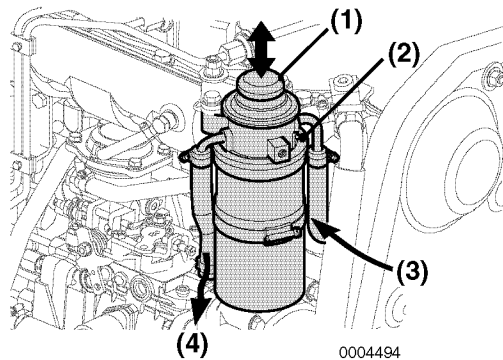

Figure 6-82
3. Loosen the air bleed screw (**Figure 6-82, (2)**) two to three turns.
4. Push up and down on the priming pump (**Figure 6-82, (1)**) to release air out of the air bleed screw.